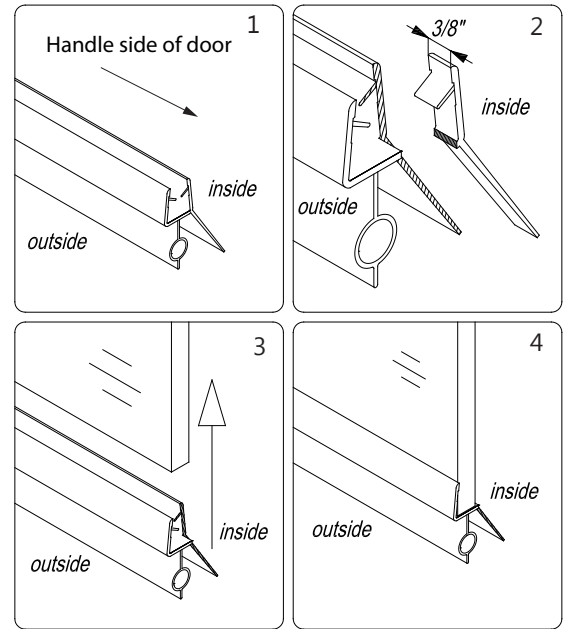

Fig 12
11. Measure the bottom of the **Glass door (#01)** from end to end to determine the actual width of the door. Cut the **Bottom anti-water strip (#07)** to the size of your measurement and notch $3/8"$ of the inner side of the **Bottom anti-water strip (#07)** as shown in Fig 12. Press the **Bottom Anti-water strip (#07)** onto the bottom edge of the **Glass door (#01)**.
See Fig. 12 for details